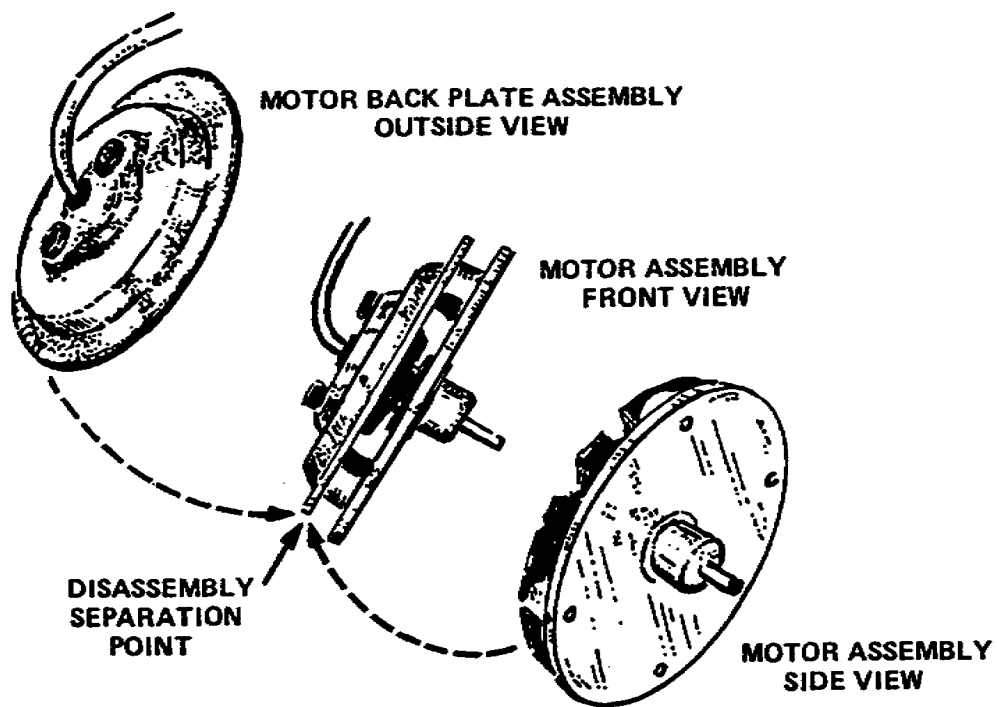

Figure 2-3. Printed circuit motor, outside view
d. The most common motor is the standard wire-wound synchronous motor. Recently, a new type of motor has been developed. It is the printed circuit motor illustrated in Figures 2-3 and 2-4.